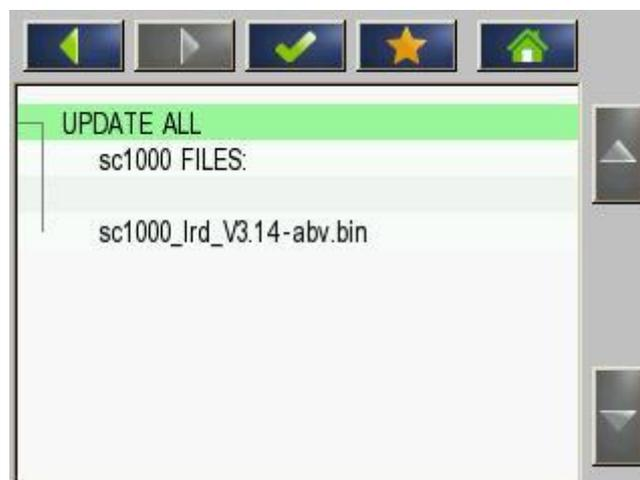

figure6: sc1000 Software Update menu
- In menu (figure6: sc1000 Software Update menu) press the <OK> button to get to the final confirmation, which starts the update process (figure8):